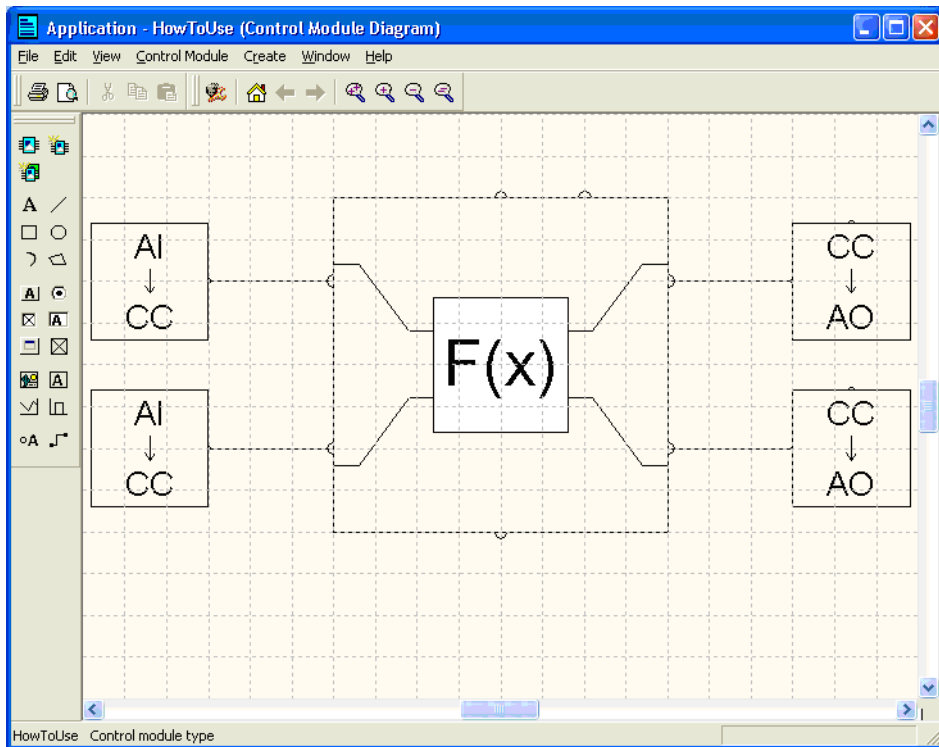

Figure 40. Connection of the Mimo22CC object
8. Connect the control modules correctly. Figure 40 shows the completed connection for the `Mimo22CC` object.